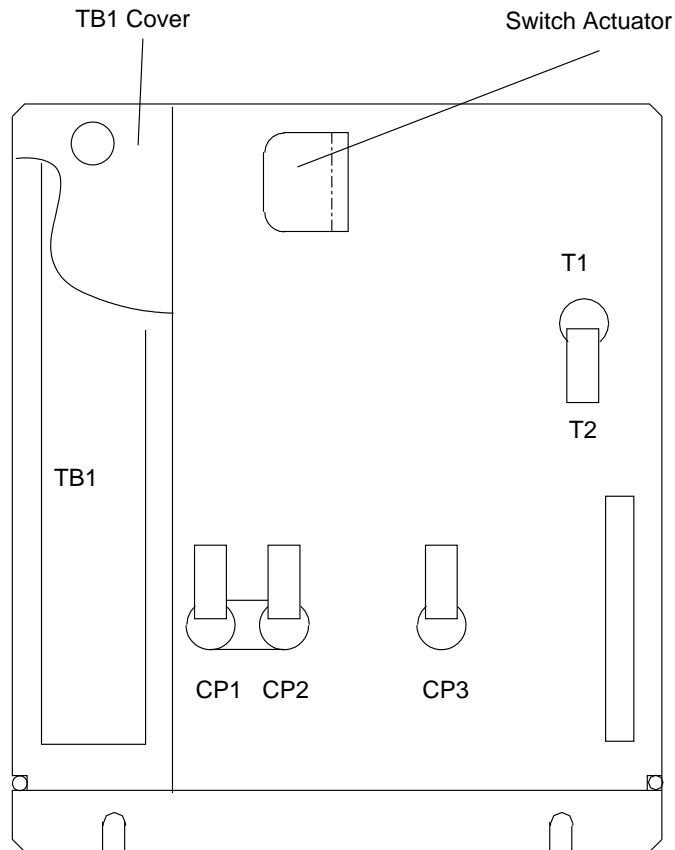

Figure 3-1. Power Supply Type 6 (Front)
- Step 2. \_\_\_\_ On the front side of the PS type 6 in 01F, locate TB1 (see Figure 3-1 below for location), and remove the TB1 cover and shield.